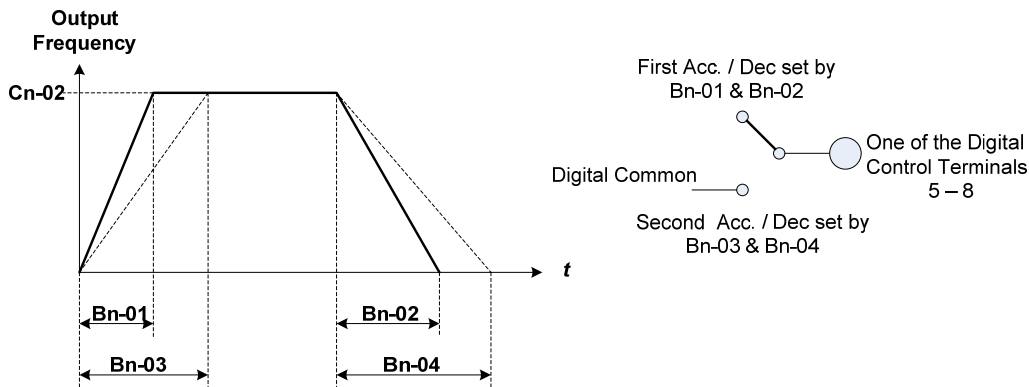

Fig. 9.2.1.1 Two Separate Acceleration and Deceleration Times
- Using one of the multi-function inputs terminals ⑤-⑧, two different acceleration / deceleration times set by (1st) Bn-01& Bn-02 and (2nd) Bn-03 & Bn-04 may be selected by opening or closing an external switch contact. This switching can be done while the drive is operating. (See Fig. 9.2.1.1 below)